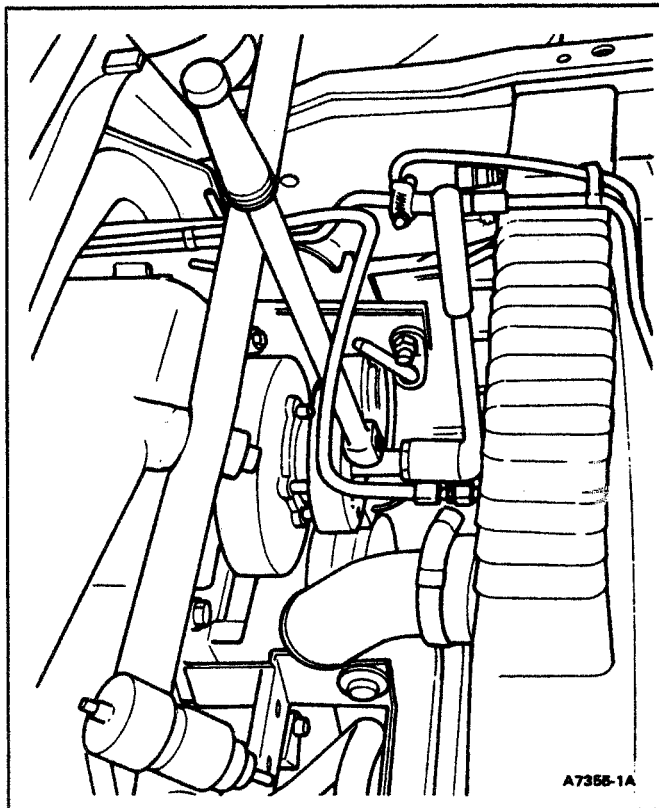

FIG. 31 Crankshaft Damper Removal (Bottom View)
11. Install Crankshaft Damper remover T83T-6316-A and remove crankshaft damper (Fig. 31).